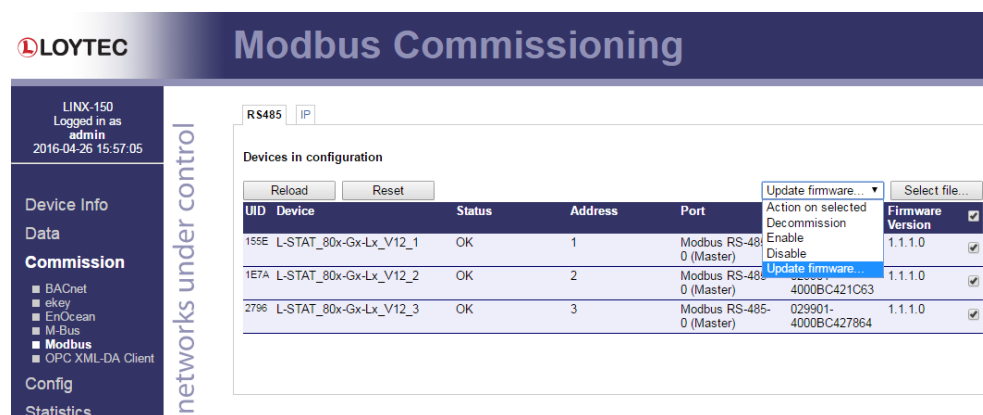

Figure 17: Web Interface – Modbus Commission
3. Select **Update firmware...** from the drop-down menu as shown in Figure 17 and click the **Select file...** button.